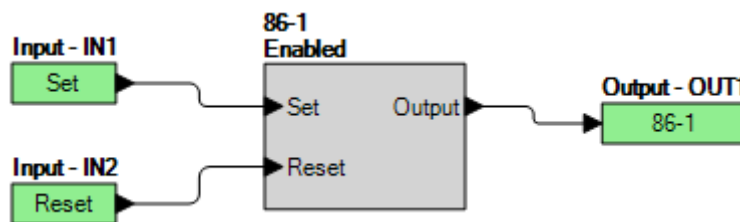

Figure 76-1. BESTlogicPlus Settings
Step 2: Use BESTCOMSPPlus to configure the BESTlogicPlus programmable logic shown in Figure 76-1.